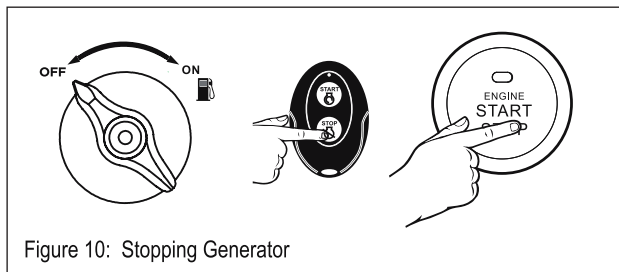

Figure 10: Stopping Generator
3. Move the Fuel Control Switch to the OFF position, press “Stop” on remote start key fob, or press the push button start once (see Figure 10).